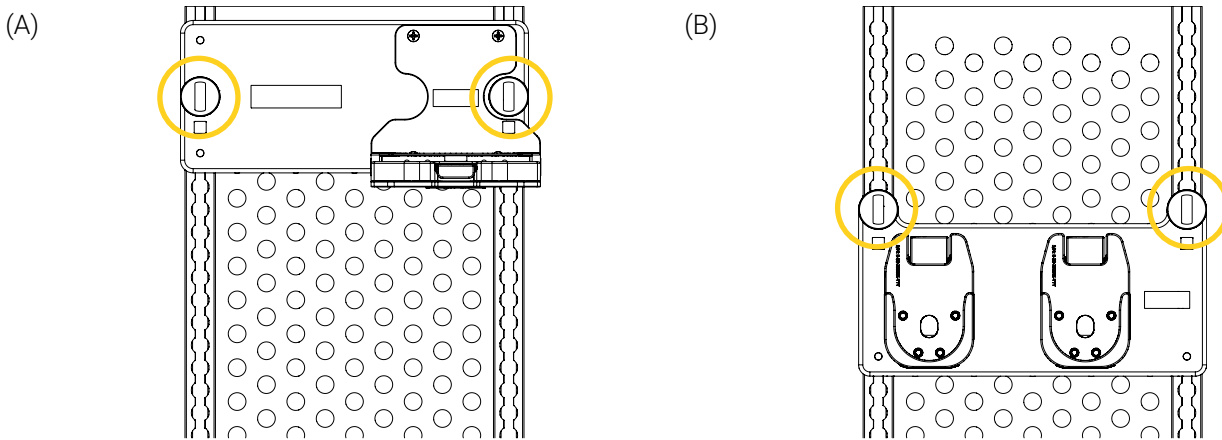

Figure 10: Rotary locks
2. Locate the rotary locks on either side of the mounting system (Figure 10).